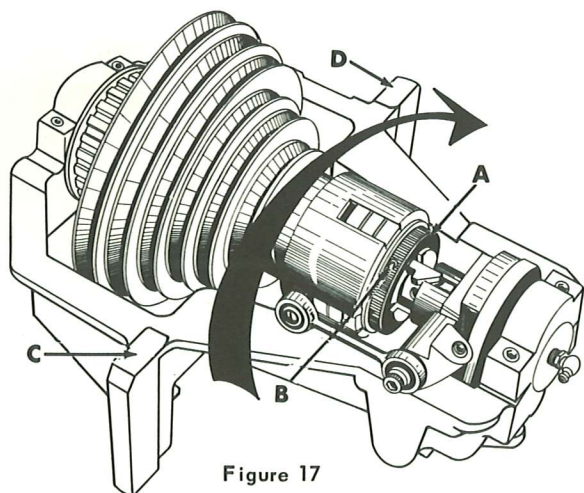

Figure 17
2. Loosen the lock screw (B, fig. 17) in the adjusting ring (A).
3. Measure to make sure that points C & D, fig. 17 on countershaft bracket are the same distance from top of head pedestal.